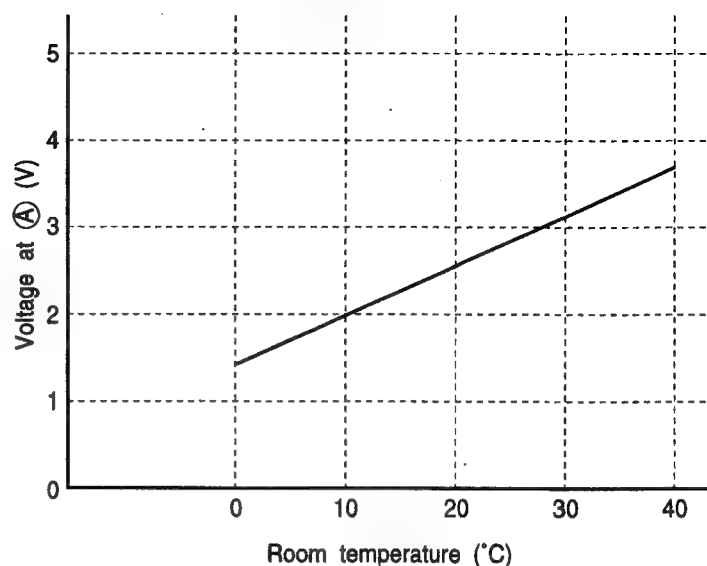

Fig. 5-2
The voltage at (A) depends on the room temperature as shown in Fig. 5-2